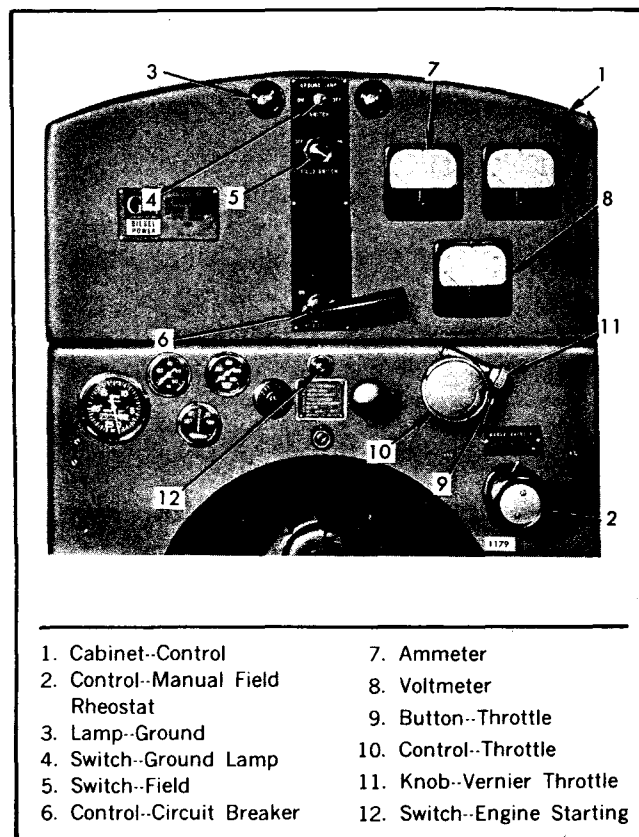

Fig. 2 - Typical Control Cabinet
4. Refer to Fig. 2 and place the circuit breaker (6) in the *OFF* position.
5. Place field switch (5) in the *OFF* position.
6. Place the ground lamp switch (4) in the *OFF* position.
7. Turn the manual field rheostat control (2) counterclockwise to its lowest limit.
Press the throttle button (9) and turn the throttle control (10), Fig. 2, counterclockwise to a position midway between *RUN* and *STOP*. Then press the starter button (12) firmly.
1. Rotate the throttle control (10), Fig. 2, counterclockwise to the *RUN* position.
2. Turn the vernier throttle knob (11) and adjust the engine speed approximately 50 rpm above the rated full-load speed.
2. Adjust the speed to *no-load* operating speed with the vernier throttle knob (Fig. 2).
3. Adjust the manual field rheostat control (2) of the incoming set until the voltage is the same as the existing line voltage.
4. Close the switch in the equalizer lines and then place the circuit breaker control (6) in the *ON* position.
1. Turn off all of the load on the generator when stopping a single engine generator set. Shift the load from the generator when taking a set out of parallel operation by turning the manual field rheostat control (2), Fig. 2, until the ammeter (7) reads approximately zero.
2. Place the circuit breaker control (6) in the *OFF* position.
5. Press the throttle button (9) and turn the throttle control (10) to *STOP* to shut down the engine.